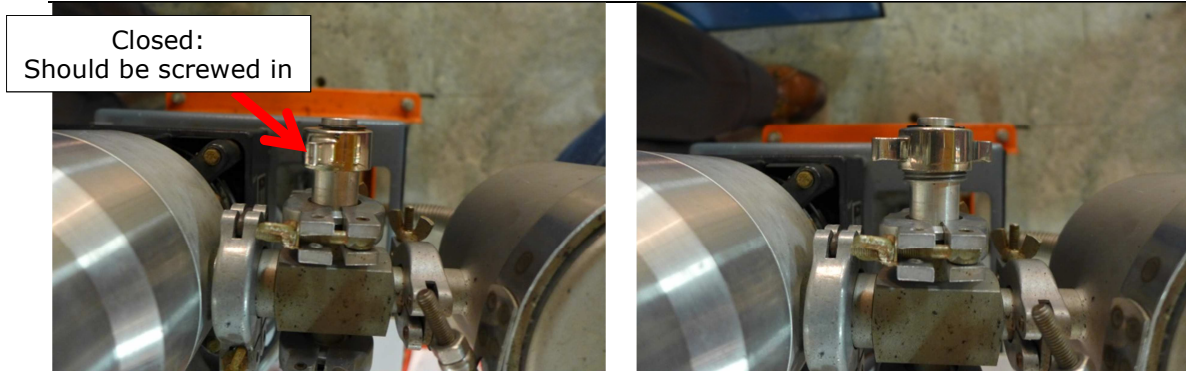

Figure 5-5: **Venting valve** at the pump set: left, valve closed; right, valve open.
- c) Close the **venting valve** (Figure 5-5).